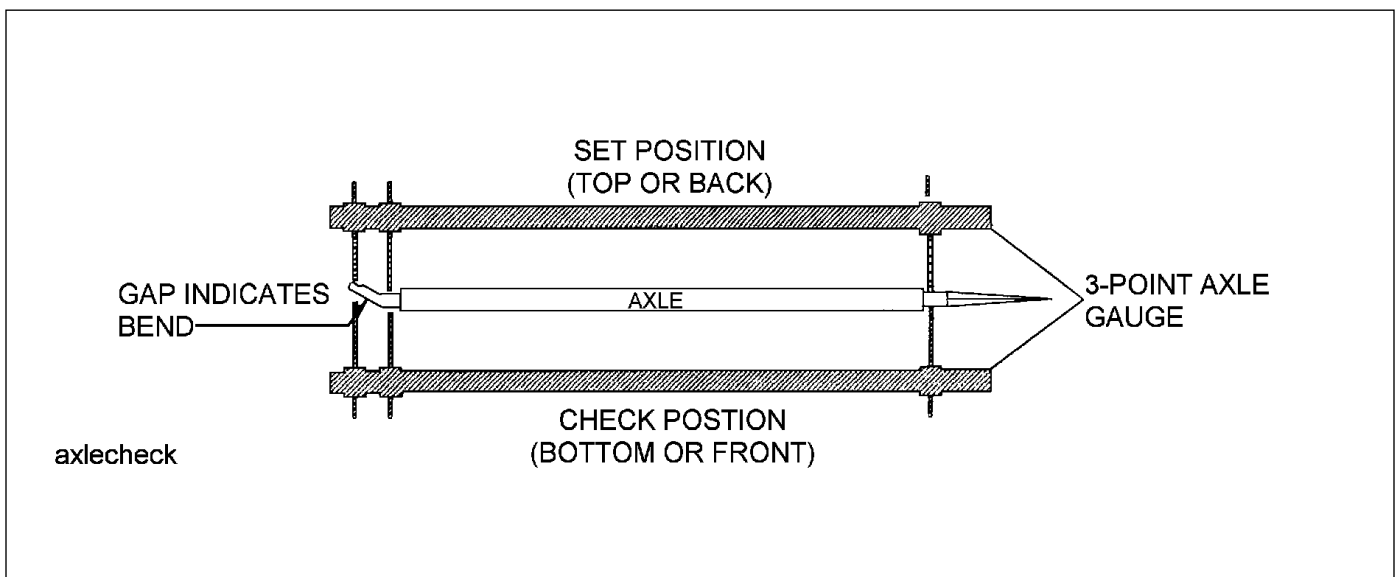

Figure 4-7: Checking Axle for Bend
2. Place a 3-point axle gauge against the front side of the axle, and adjust each axle gauge point to the axle. (Double point end against the inner and outer wheel bearing surfaces of the spindle being checked and the other point on the inner bearing surface on the other spindle.)(See Figure 4-7.)